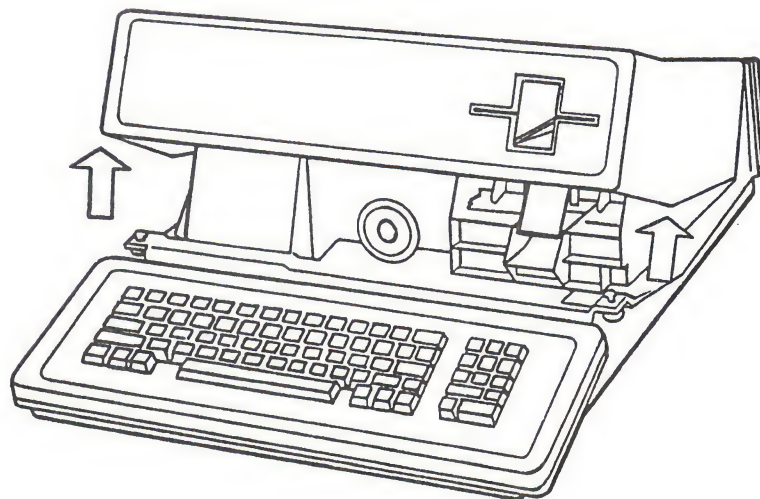

FIGURE 3
5. Lower the Apple /// to the operating position and with a hand on each side, lift the cover up and pull it forward to remove it. (See Figure 3).